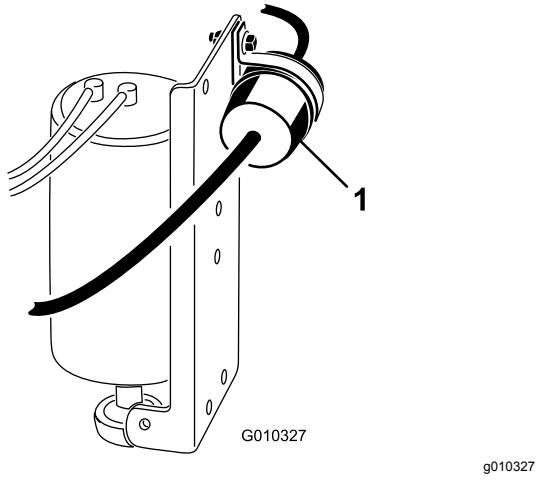

Figure 37
2. Place a drain pan under the fuel filter (Figure 37).